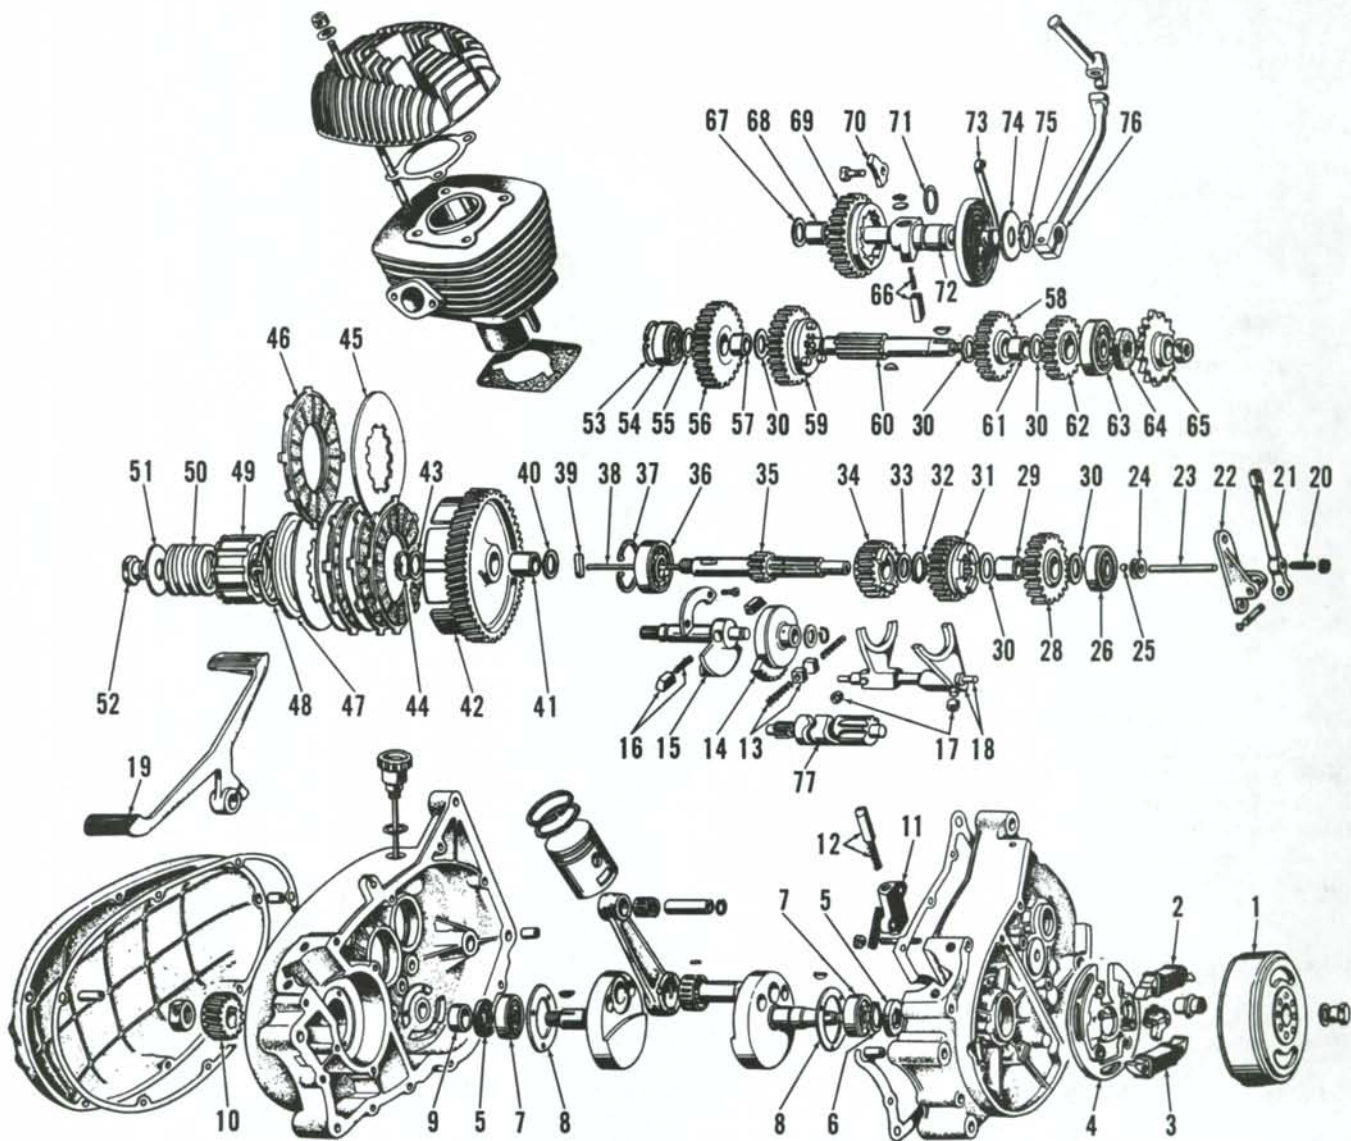

Fig. BE1-6—Exploded view of engine and transmission.
(20—Fig. BE1-6) in clutch lever under the engine left side cover.
**CLUTCH.** The manual, multiple disc wet type clutch is mounted on the right end of the transmission input shaft as shown in Fig. BE1-6. The clutch is actuated by lever (21) on left side and rods (23 & 38) which go through center of the input shaft. The actuating block (39) is used as drive key and disengaging block. When reassembling, smooth side of pressure plate (47) should be toward retaining ring (48). Tighten nut (52) to 36 Ft.-Lbs. torque.
the crankcase halves. Refer to Fig. BE1-6. When assembling, the gears and shaft can be assembled in the left half of crankcase and right half can be assembled over the shafts. The timing